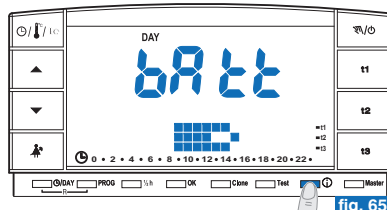
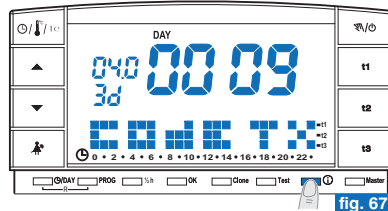

fig. 65
fig. 67
- From the previous screen press ① again: the display will show the battery charge level (example in fig. 65).
- From the previous screen (fig. 65), press **i** again: the display will show a serial number, which is transmitted by the chronothermostat each time data transmission is carried out (example in fig. 67).